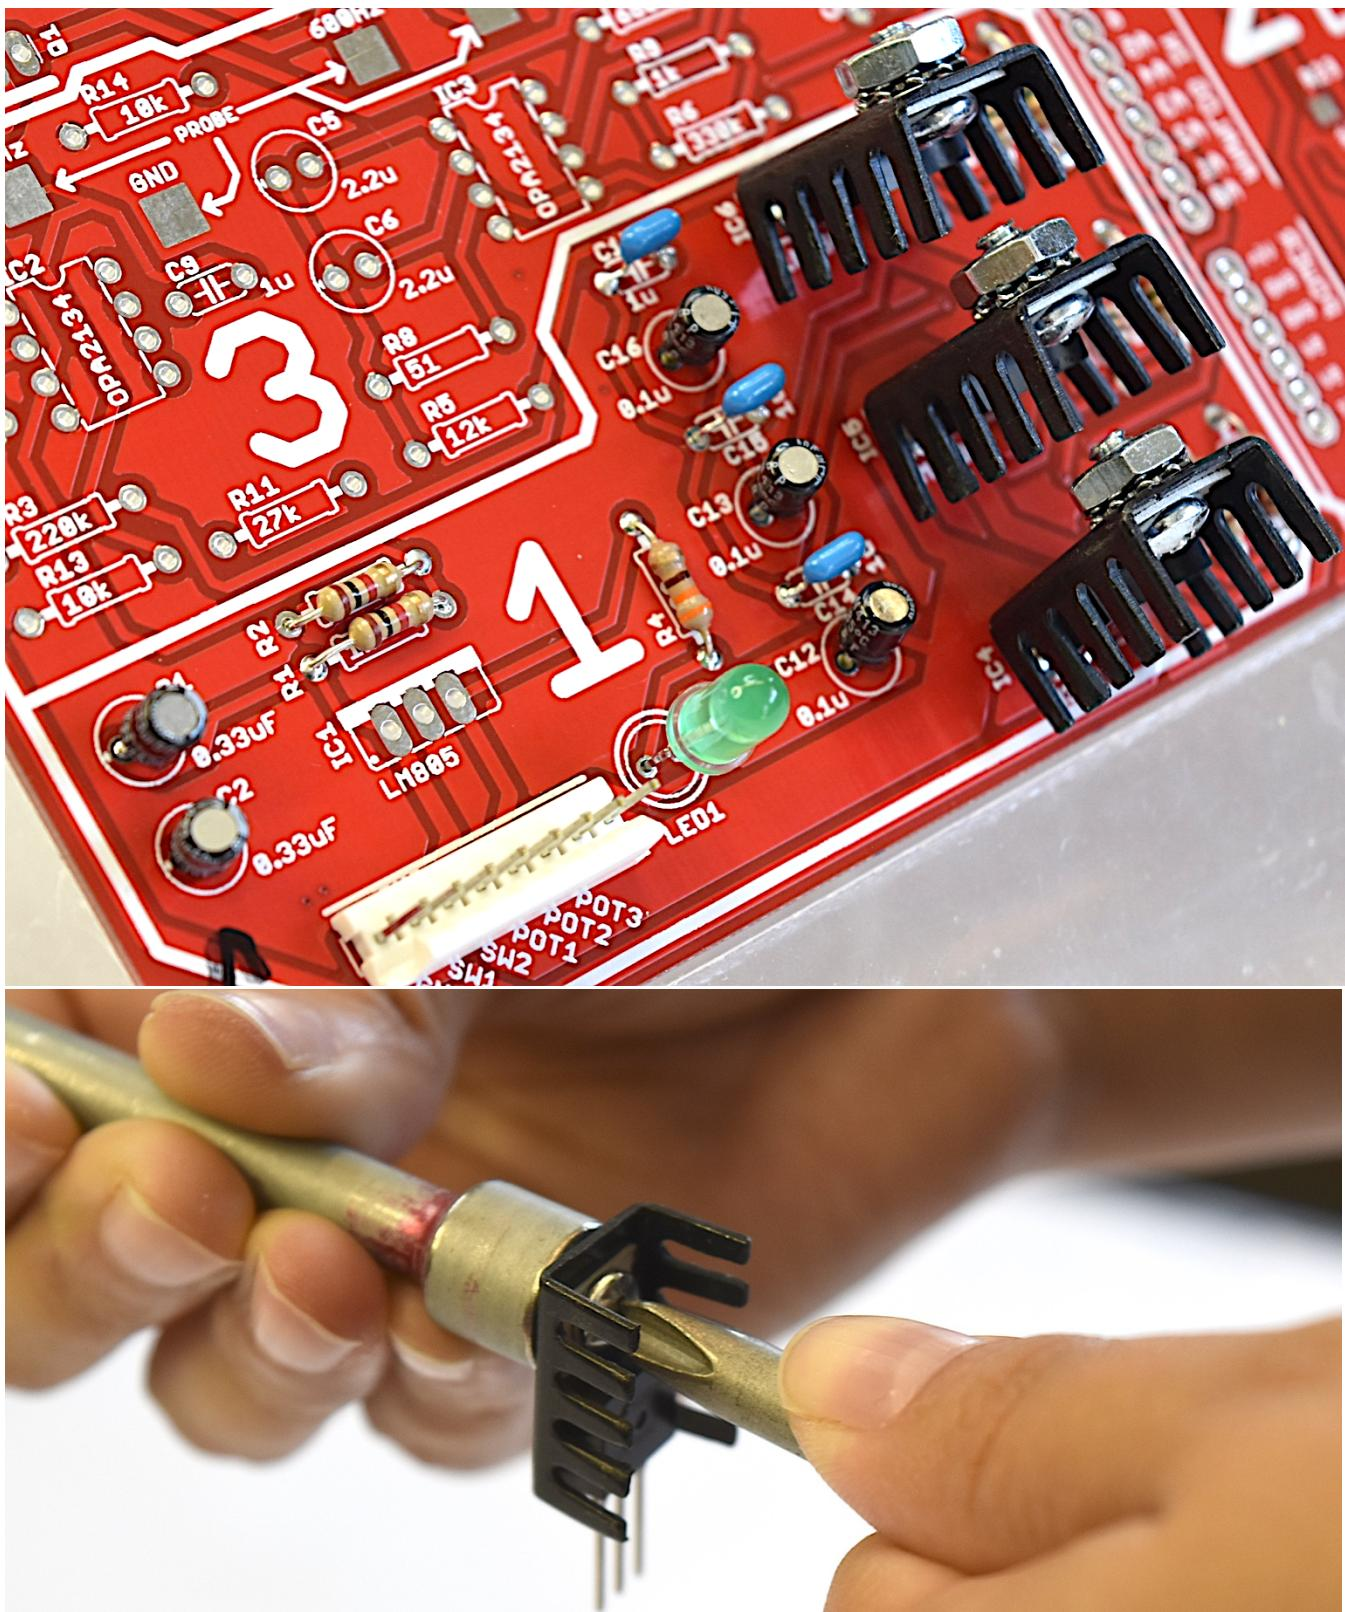

Figure 3: Nearly all components mounted to the PWB corresponding to Step 1A. **Note:** LM805 regulator not installed yet in photo.
STEP 1A. Solder components inside region 1 (see Figure 3).
Your kit contains three heat sinks and associated hardware to attach them to LM350 regulators which power the 3 watt RGB LEDs (See figure 3). Kit hardware includes a set of three #6-32 x ¼ inch screws, star lock washers and #6-32 hex nuts. Because of limited tool access it is strongly recommended to **attach the heat sinks before** soldering regulators. LM7805 do not require heat sinks.